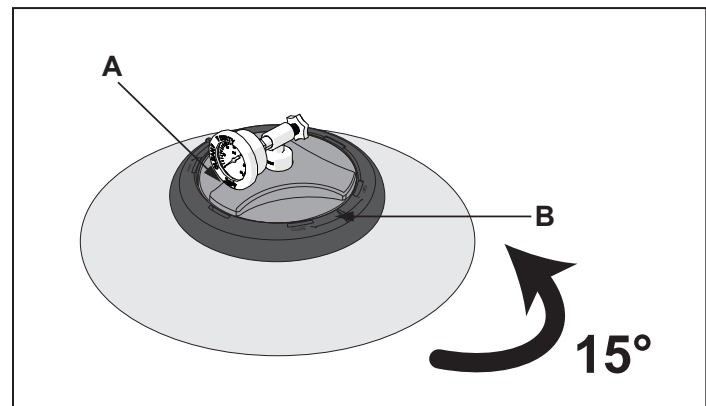

Figure 7. Loosen Hand Wheel
- Take care not to dislodge the vent tubing and vent screen. See Figure 7.
12. Make sure that the automatic vent tubing is in place (threaded through the diffuser) and the vent screen is installed at the top of the vent tubing. See Figure 7.
1. Turn the hand wheel (A) in a counterclockwise direction until it becomes loose. See Figure 7.
3. Before removing the lid, turn it 15° in a counterclockwise direction (B) See Figure 7. Lift the whole lid by the hand wheel.